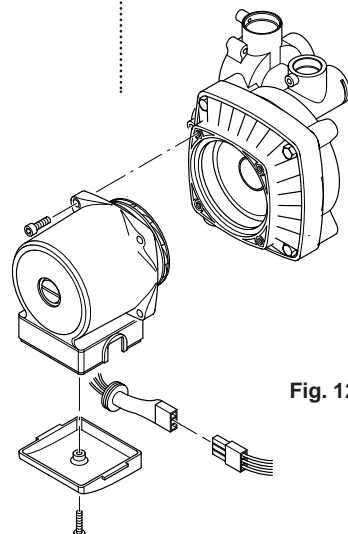

Fig. 128
11.15 Pump (Head Only) (Fig. 128)